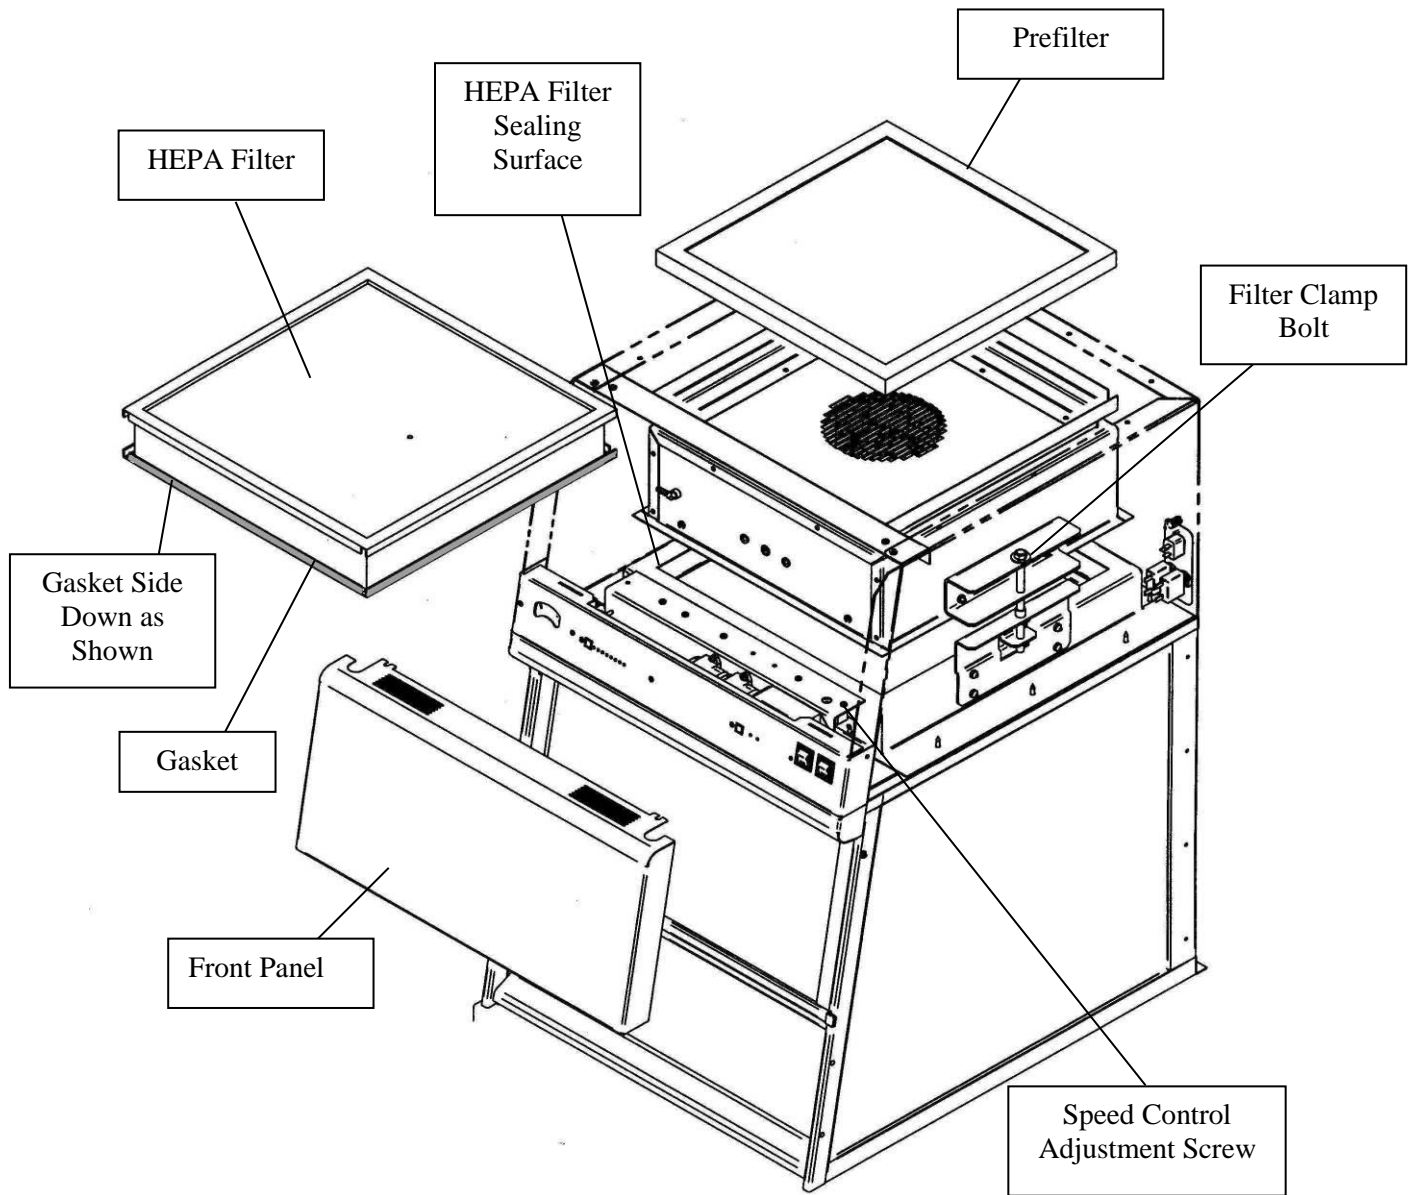

Figure 6-1
NOTE: Only a qualified certifier should service the HEPA filter. After the HEPA filter is replaced, the enclosure **MUST** be certified. See Figure 6-1.
3. Using a 9/16" deep socket, loosen the filter clamp bolts located on top. Refer to Figure 6-1.
After installing the new HEPA filter, the HEPA filter should be leak checked. This test is performed to determine the integrity of the HEPA filter, the filter housing, and the filter seal. Leak testing must be done by a qualified technician with calibrated equipment. Remove the upper perforated diffuser located inside the enclosure by using a Phillips screwdriver to unfasten the screws. (See Figure 6-1). The filter passes the leak test at .01% or better. Reference Leak Testing and Photometer scanning from the Institute of Environmental Services (IEST-RP-CC001.6)
1. Remove the front panel by loosening the (2) Phillips screws on top that secure the front panel.
2. The speed control is located on the electrical subassembly located behind the switched control panel and below the front panel. See Figure 6-1.